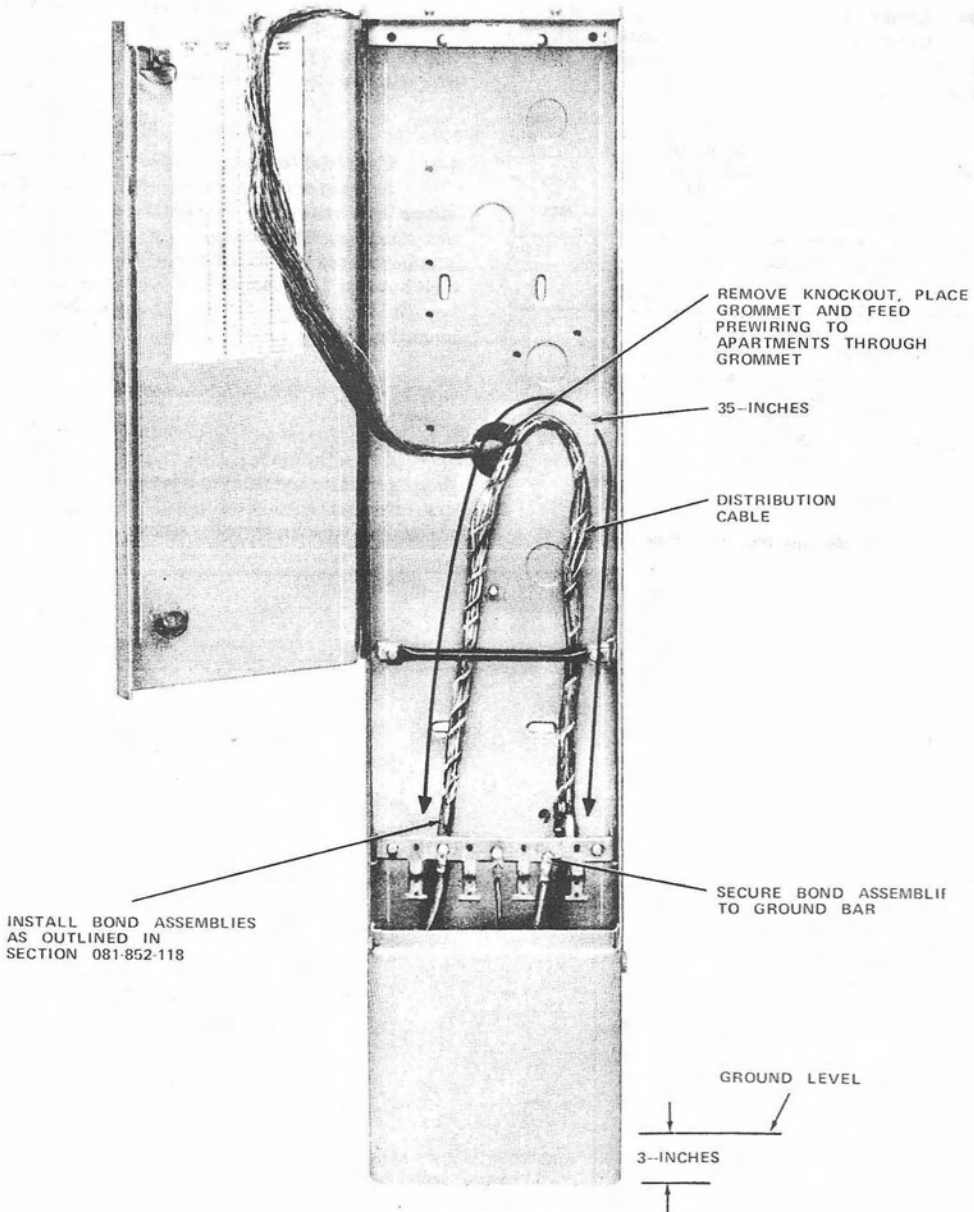

Fig. 7—Prewiring Entering Through Rear of Closure
3.07 Prewiring should be brought through a knockout in the back of the closure (Fig. 7). Remove the appropriate knockout and install the large grommet furnished with the closure. Feed the prewiring through the grommet; then, secure.
4.02 Position the cable against the ground bar and mark the cable approximately 1/4 inch above the ground bar on each side of the proposed sheath opening. The distance between the two marks should be 35 inches as shown in Fig. 7. These dimensions must be measured accurately. A good housekeeping job cannot be done if the sheath opening is too long or too short. The ground bar can be removed or detached on one side and swung up to provide additional working space for cable sheath preparation.
4.04 Install the D bond assembly furnished with the closure on the cable as outlined in Section 081-852-118. Attach the D bond assembly to the bonding bracket as shown in Fig. 7.